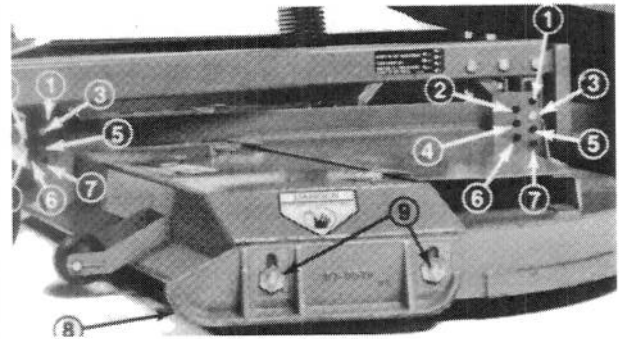

Figure 1
1. Remove the nuts securing the rear rollers to the outside of the cutting unit (Fig. 1).
2. Adjust the skid by loosening the flangenuts, positioning the skid as desired, and re-tightening the flangenuts (Fig. 1).